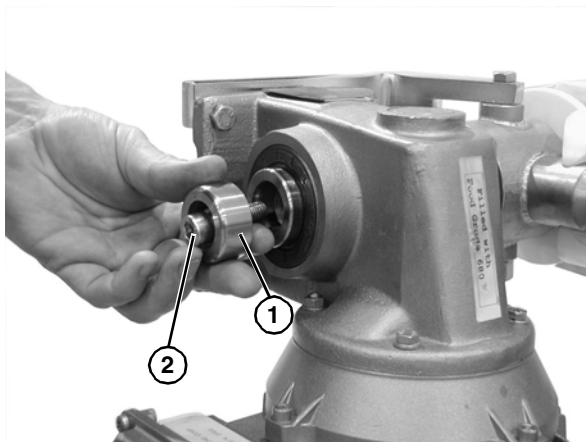

Figure 29
4. Attach the bore plug (**Figure 29, item 1**) and tighten the socket head screw (**Figure 29, item 2**). Snap cover onto bore plug (**Figure 29, item 1**).